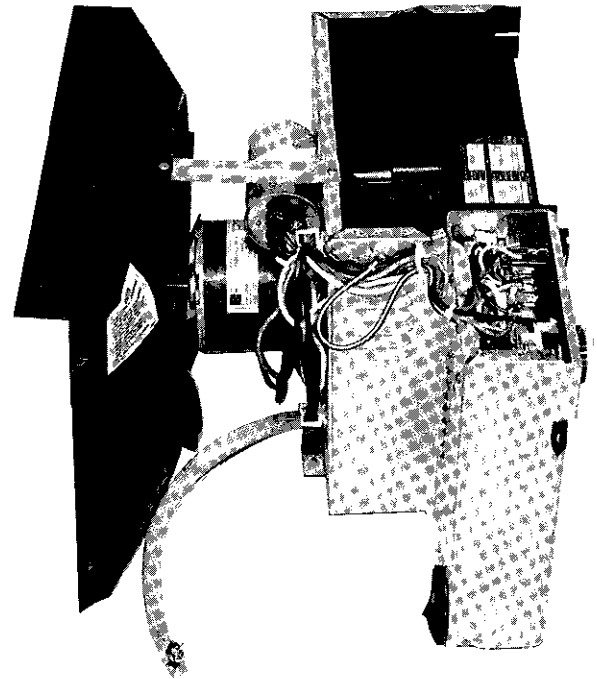

Fig. 19 — Partition Assembly
- g Lift partition assembly out of unit. See Fig. 19. When lifting, carefully grasp secure parts and lift gently. Obtain assistance in lifting if necessary.